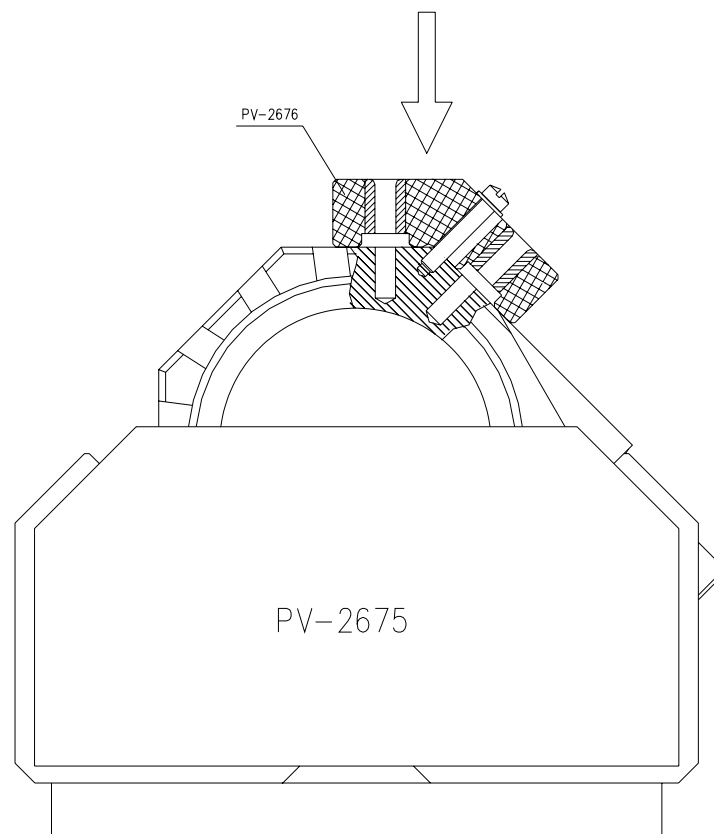

Fig.4
3. Put the hub into the drilling fixture PV-2675 (Fig.4).